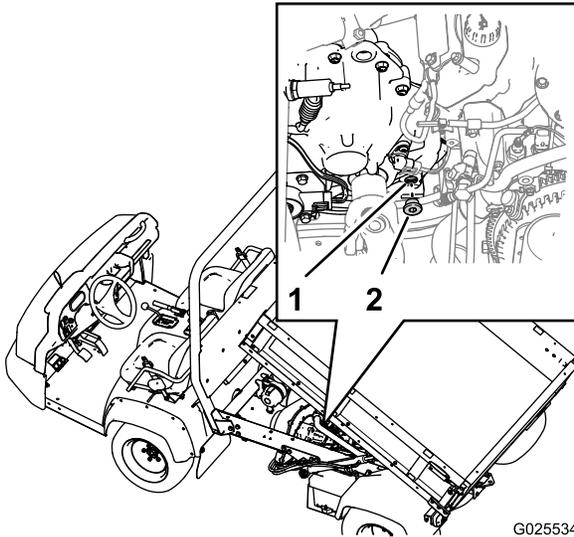

Figure 67
1. Locate the fill plug at the at the lower-inboard area at the back of the transmission (Figure 67).
3. Rotate the plug counterclockwise and remove the plug from the fill port in the transmission (Figure 67).
4. If the transmission-fluid level is low, add transmission fluid of the specified type into the transmission through the fill port until the fluid level is flush with the bottom of the threads in the port (Figure 67).
6. Install the fill plug into the transmission and tighten it hand tight (Figure 67).